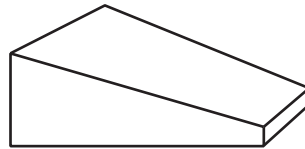

Fig. 2.1
2. The lump of plasticine is to be moulded so that it is wedge-shaped (see Fig. 2.1). A strip of sellotape should be stuck along the bottom face of the wedge to enable it to slide easily along the metre rule.